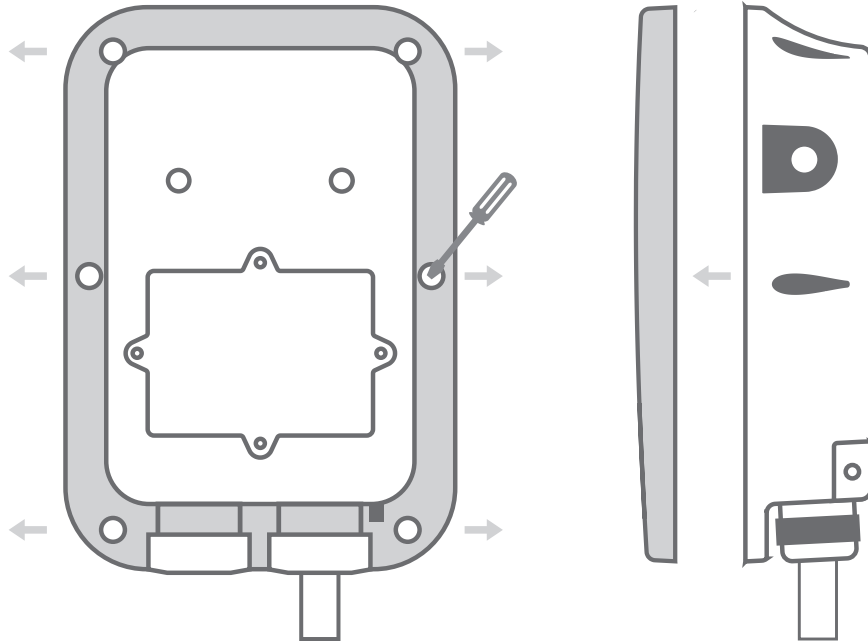

Fig. 5.5.1
1. Unscrew the six screws on the back cover with a Phillips screwdriver, and remove the front cover. (See Fig. 5.5.1)